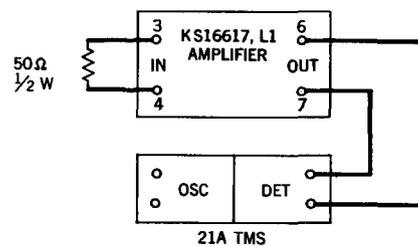

Fig. 6 - Test Setup for Measuring Noise of Low-Level Channel
6.03 The noise test for the LOW-LEVEL channel should be made in accordance with the test setup shown in Fig. 6. Chart VI outlines the step procedure to be followed in making this test.
2	Connect circuit as shown in Fig. 6.